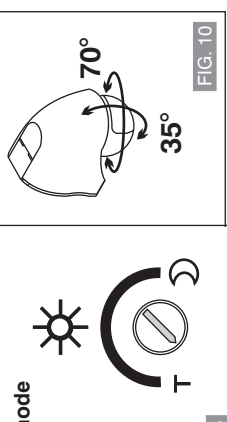

FIG. 8
- Carefully turn the Light lux control (☼) and time regulator (⌚) to the left and stop (TEST position - FIG. 8).